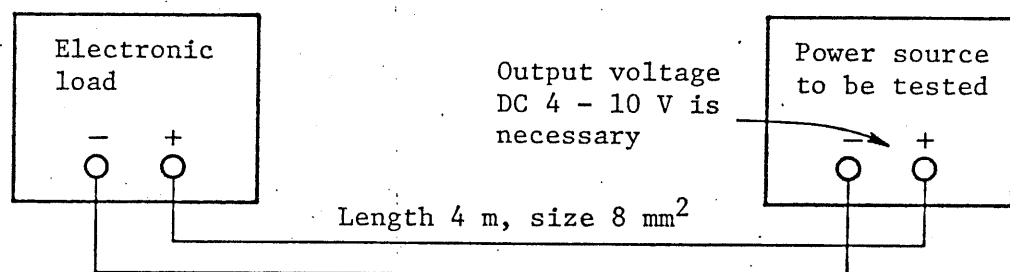

Figure 2-1-4
- ⑮ C.C RANGE. Switch to change the range for constant current mode.
- ⑯ FUNCTION. Either of the following four constant current modes may be selected: EXT (External Voltage Control), INT (Manual Control), SW (Switching Operation), and DC (DC Operation).
- ⑰ PRESET. By depressing this switch, current value or resistance value will be indicated on the digital ammeter depending on the state of the mode switch. At the constant current mode, current value may be preset by either CURRENT I or CURRENT II dial which is selected by the manual switch. At the constant resistance mode, resistance value may be preset by the CURRENT/RESISTOR dial.
- ⑱ PRESET W INPUT POWER. Loading power (watt) is indicated on the voltmeter while power limit value is indicated on the power indicator.
- ⑲ POWER LIMIT. Semi-fixed adjuster to change power limit value. The value may be set by use of the power indicator while depressing PRESET W switch.
- ②① CURRENT MONITOR. Current monitor terminals (10 mV/A). At the switching mode, current wave form and switching frequency and duty may be adjusted through an oscilloscope.
- ②① DC INPUT. Rear panel input terminals installed in parallel connection to DC INPUT terminals on the front panel. The highest range of the constant resistance mode may be set at 100 to 1000  $\Omega$  by combination of the short pieces,  $\times 10$  and  $\times 1$ .
- ②② 120 V AC 50/60 Hz. Power supply cable.
- ②③ Fan Blowout Opening. Air blowout opening of clean package. Do not place anything sensitive to heat around the unit, since hot air is expelled. Also, be certain to place the unit at a distance of 30 cm or more from the wall.
- ②④ Terminal Base. The terminal base is installed for external controls. (See Fig. 2-1-4). Terminals for the following operations are installed: External voltage control and resistance control under the constant current mode; external voltage control, sensing and one-controlled parallel operation; sensing under the constant voltage mode; and external control of the LOAD switch.
- ②⑤ Option Unit Installation Holes. Screwed holes for installing the DPO series (Digital Programmable Options).